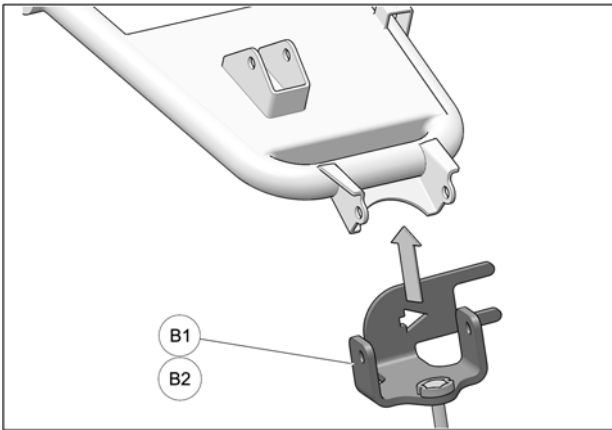

Fig. 6
6. Install anchor bracket (B1-B2) on lower suspension arm and align anchor bracket bolt holes with suspension arm bolt holes. See Fig. 6